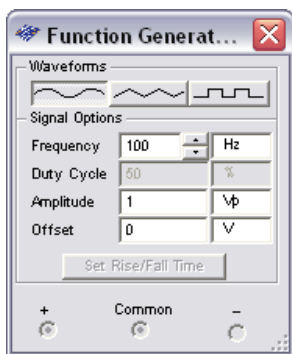

Figure E2-9. Function Generator Configuration
- c. Verify your circuit is operating as expected by configuring the **function generator** and **oscilloscope** as shown in Figures E2-9 and E2-10.